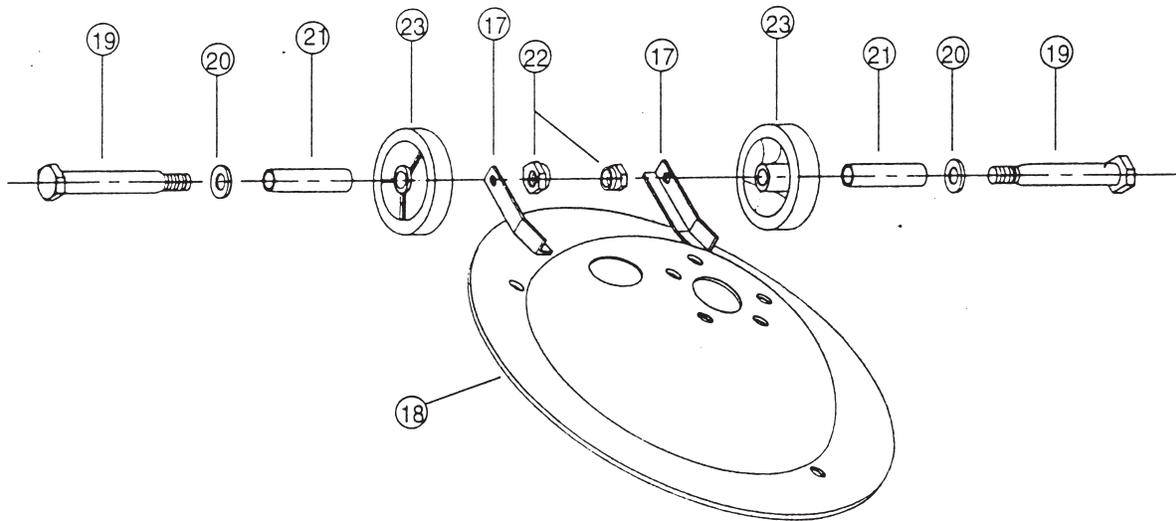

Figure 6
- I. See Figure 6. For HD series models, attach wheels (23) to the wheel bracket (17) on the base (18), using 1/4-20x2 1/4" bolts (19), washers (20), spacers (21), and hex nuts (22). See Figure 6 below.